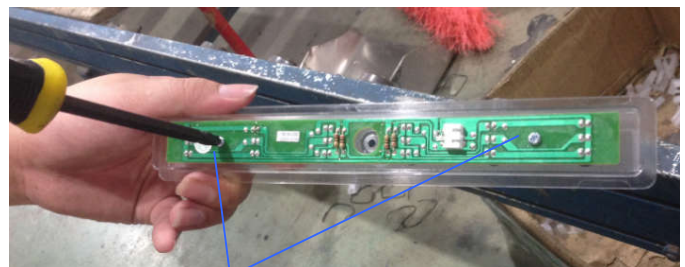

Figure 10
3. Loosen four screws. (figure 10)